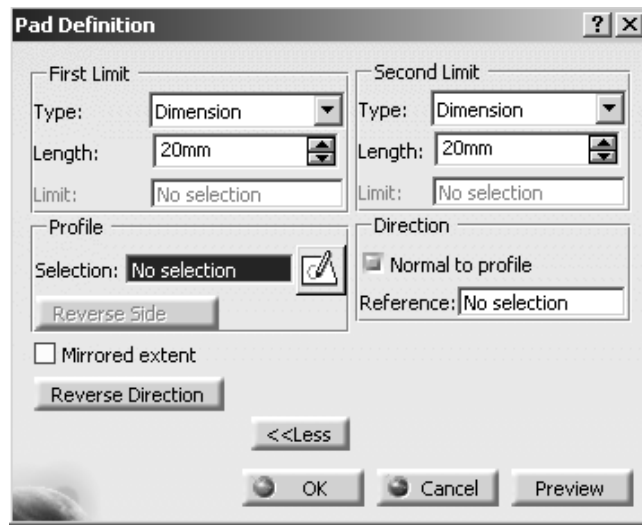

Figure 1.3
- 1.8 When the **Pad Definition** window appears, , select the **More** button. This will expand the **Pad Definition** window to show the **Second Limit** box. Figure 1.3 shows the **Pad Definition** window expanded to include the **Second Limit**.